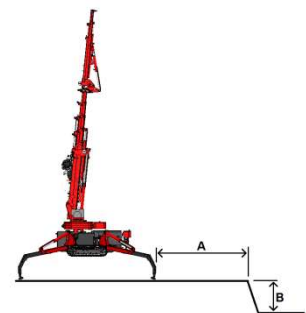

Figure 33
- If the crane is raised on the outriggers in the vicinity of a ditch or slope, it is recommended that distance A from the outrigger to the edge be at least twice as long as depth B of the ditch (see figure 33).